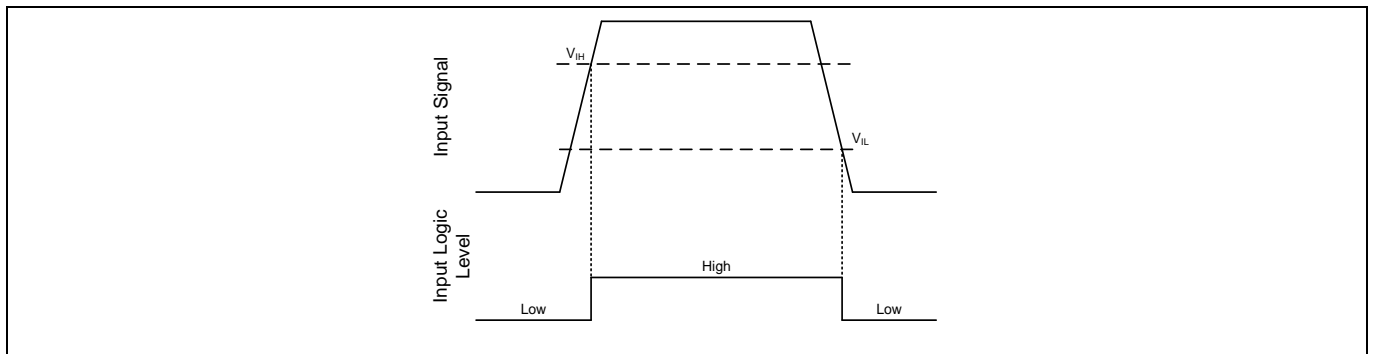

Figure 12 HIN & /LIN input thresholds
The input pins are based on a TTL and CMOS compatible input-threshold logic that is independent of the  $V_{CC}$  supply voltage. Figure 12 illustrates an input signal to the 2ED2108 (4) S06F (J), its input threshold values, and the logic state of the IC as a result of the input signal. The typical high threshold ( $V_{IH}$ ) of 2.1 V and typical low threshold ( $V_{IL}$ ) of 0.9 V. The input pins are conveniently driven with logic level PWM control signals derived from 3.3 V and 5 V digital power-controller devices. Wider hysteresis (typically 0.9 V) offers enhanced noise immunity compared to traditional TTL logic implementations, where the hysteresis is typically less than 0.5 V. 2ED2108 (4) S06F (J) also features tight control of the input pin threshold voltage levels which eases system design considerations and ensures stable operation across temperature. The 2ED2108 (4) S06F (J) has input pins that are capable of sustaining voltages higher than the bias voltage applied on the  $V_{CC}$  pin of the device.